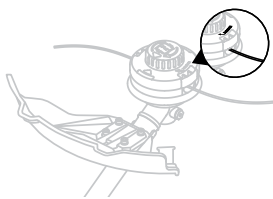

Fig. 8B
2. Insert the cutting line into the eyelet that is marked "LINE IN" on the spool. (Fig. 8B)